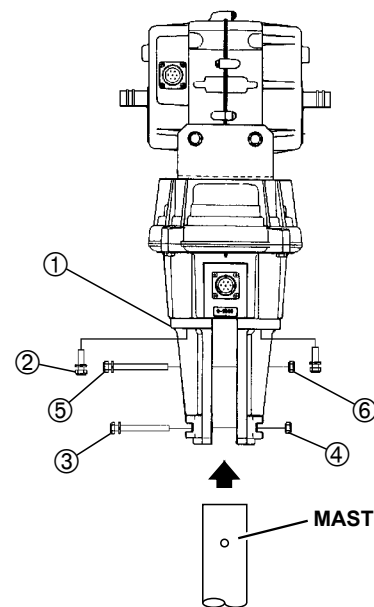

Figure 2
2. Referring to Figure 2, loosely fasten the mast bracket halves ① to the rotator housing using four M8x25 bolts ②, flat washers and spring washers.
3. Insert the mast into the bracket, and finger-tighten the four M8x70 bolts ③ with spring washers and nuts ④. Note that one side of the bracket has ridges on either side of the bolt holes: the bolts should be inserted from this side, so the ridges hold the bolt head from turning.
4. Finger-tighten the M8x95 socket bolt ⑤ with nut ⑥.